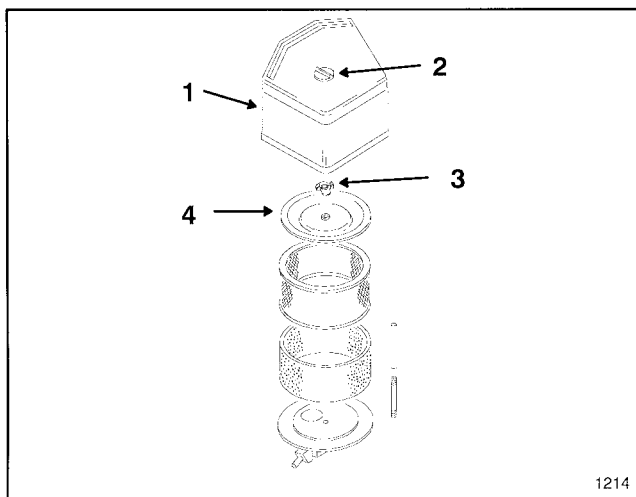

Figure 17
1. Remove knob and cover (Fig. 17). Remove wing nut and element cover.